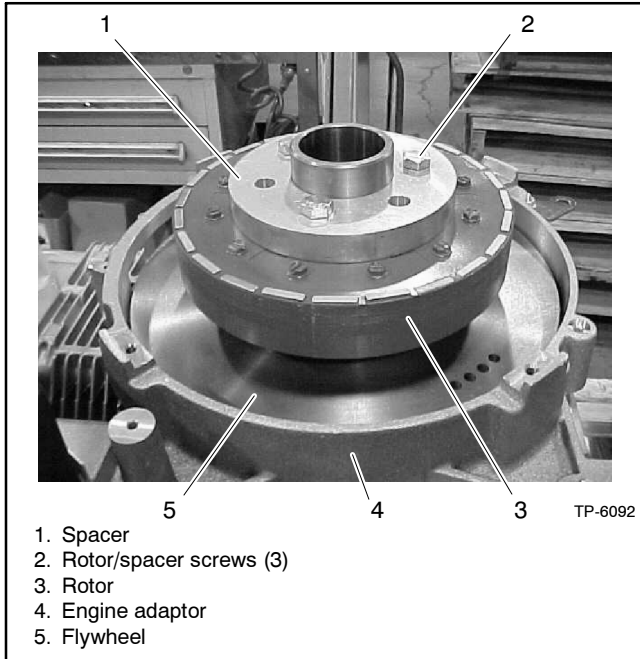

Figure 7-5 Rotor and Spacer (shroud and stator removed)
- d. Remove the three screws securing the spacer and rotor to the flywheel. Remove the spacer and the rotor. See Figure 7-5.
- c. Use three 63.5 mm (3/8-16 x 2.5 in.) hex head screws to secure the spacer and rotor to the flywheel. See Figure 7-5. Do not tighten the screws.